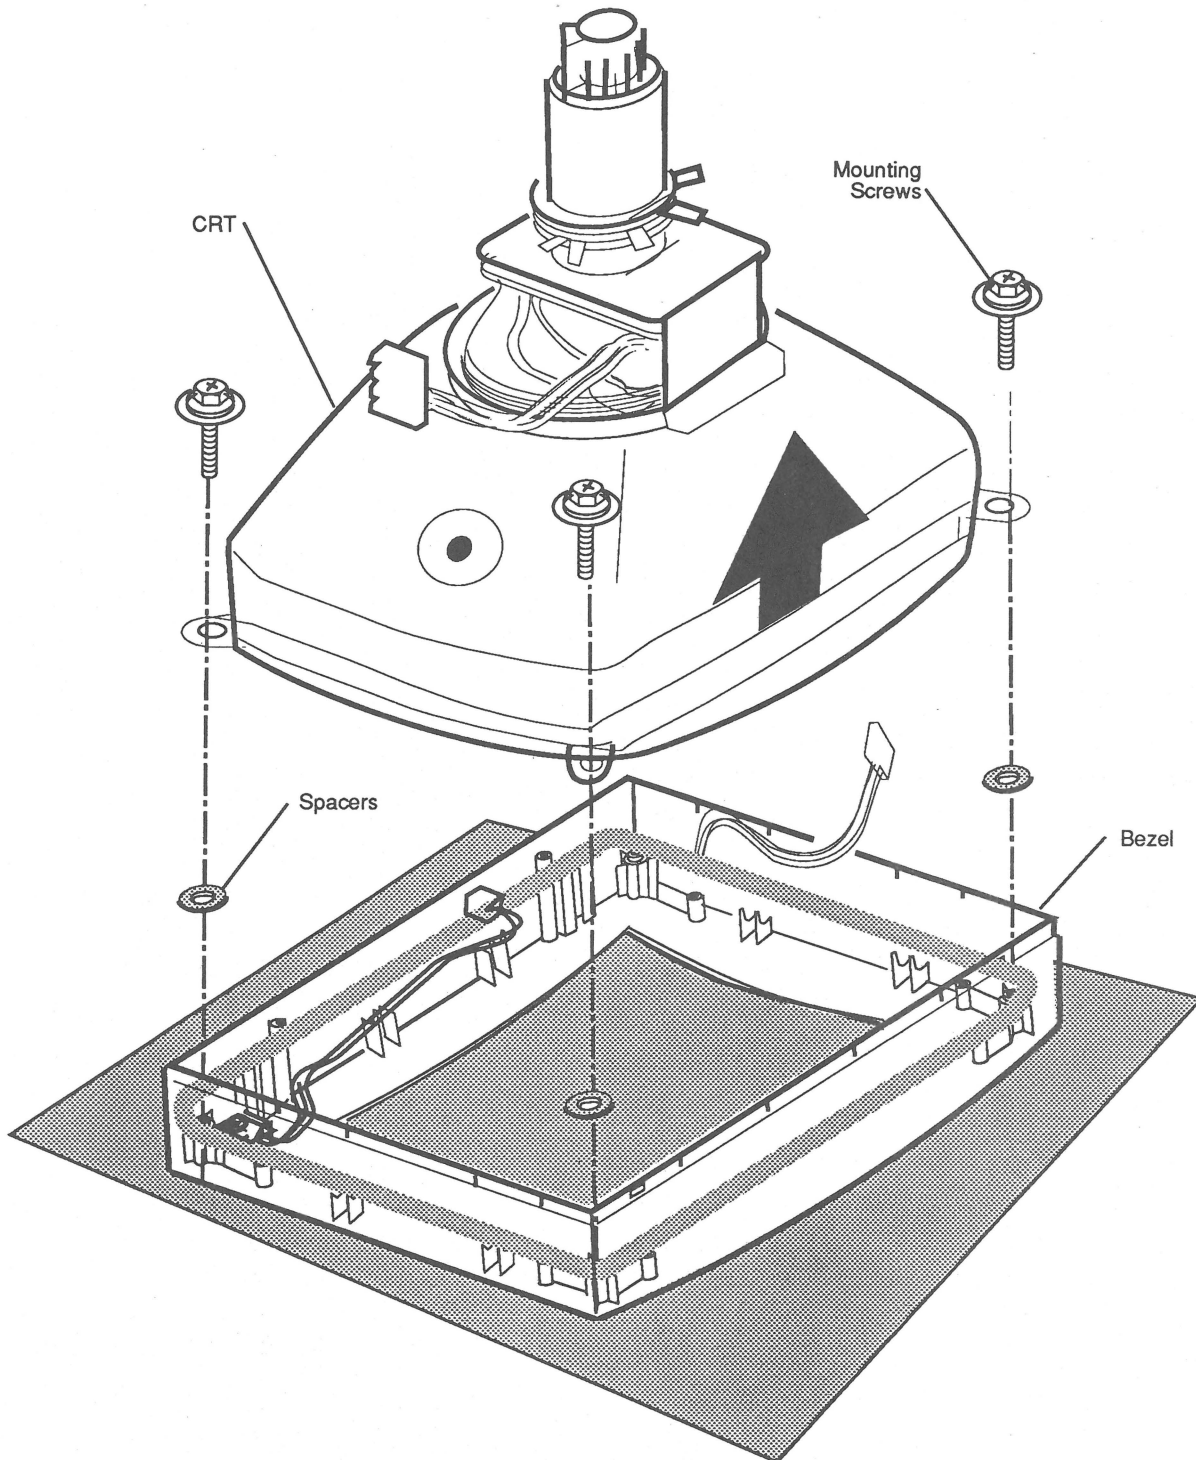

Figure 2-16 Replacing the CRT Assembly
4. **Figure 2-16.** Remove the four screws with attached lockwashers from the corners of the CRT.
5. **Figure 2-16.** Carefully lift the CRT out of the bezel and place it face-down on the protective pad.
6. **Figure 2-16.** Remove the four spacers from the plastic standoffs at the corners of the bezel.
1. **Figure 2-16.** Replace the four spacers, rubber side up, on the plastic standoffs in the bezel corners.
2. **Figure 2-16.** Carefully replace the CRT inside the bezel. Make sure the anode aperture in the CRT is at the side of the bezel nearest the LED.
3. **Figure 2-16.** Replace the four screws with attached lockwashers that secure the CRT to the bezel.